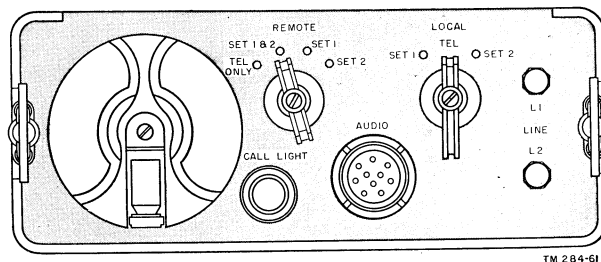

Figure 22. Local control C-434/GRC, controls.
- (1) At the local control unit (fig. 22), set the REMOTE switch at the TEL
- (1) Put the radio set in operation as described in paragraph 24.
- (2) Hold the LOCAL switch (spring-return) on the local control unit (fig. 22) at the SET 1 position, press the push-to-talk button on the handset, and talk into the microphone of the handset when transmitting; release either switch to listen.
- (3) Turn the POWER switch on the radio set to OFF when the set is not being used.